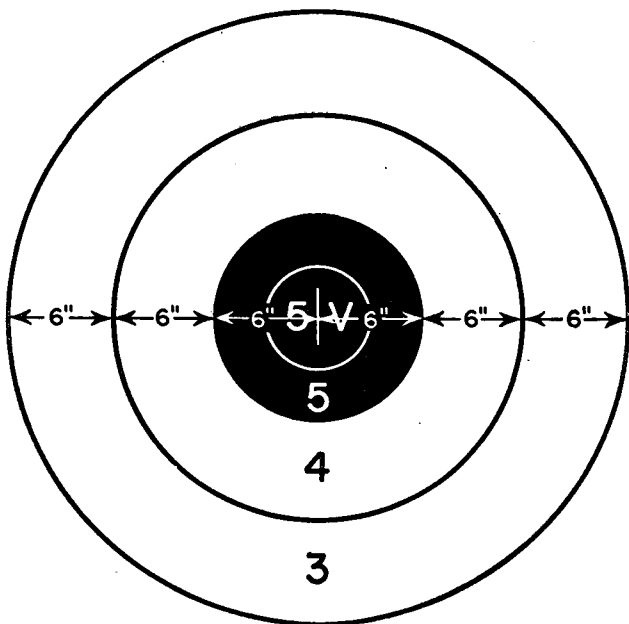
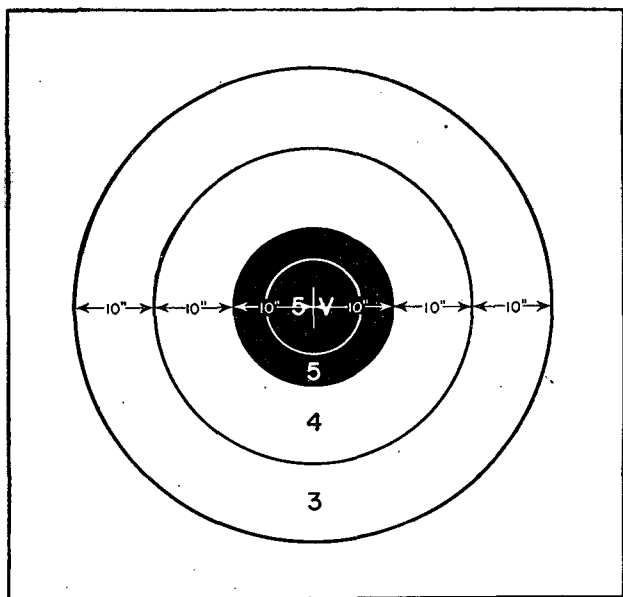

Figure 91. The A target.
Figure 92. The B target.
- (1) The range to the target.
- (2) The number of inches on the target that you wish to move the next shot.
b. On the range you will know the distance to the target, but you will have to estimate the number of inches you wish to move the strike of the bullet. A knowledge of the dimensions of the target will help you estimate this distance. On the known distance ranges you will use the rifle A target (fig. 91) for slow fire at 100, 200, and 300 yards and for sustained fire at 200 and 300 yards. The rifle B target (fig. 92) is used at 500 yards. Study these targets and remember the number of
c. Knowing the dimensions of the A target, how many clicks will be needed to move the bullet from the bottom of the bull's-eye to the center of it at a range of 100 yards? 200 yards? 300 yards? In solving these problems, refer to figure 91. How many clicks would be needed to move the bullet from the bottom of the bull's-eye to the center if you were firing at the B target from 500 yards? In solving this problem, refer to figure 92.